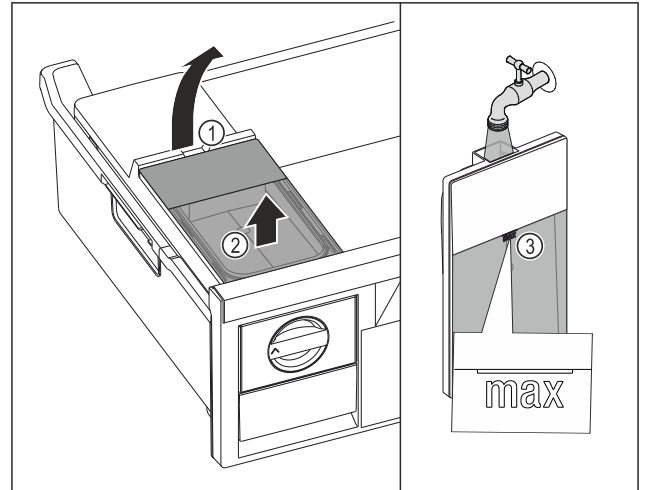

Fig. 71
- ▶ Lift the water tank at the recess *Fig. 71 (1).*
- ▶ Remove the water tank by lifting it upwards. *Fig. 71 (2)*
- ▶ Fill the water tank with drinking water up to the mark *Fig. 71 (3).*